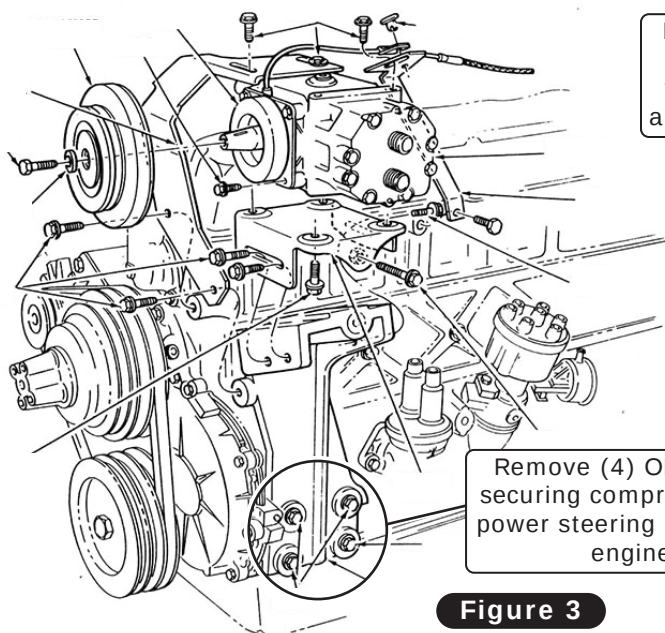

Figure 3
6. Remove the (4) bolts securing the compressor and power steering bracket to the engine (See Figure 3, below). Loosen the (2) pivot bolts on the power steering bracket, then remove the compressor and power steering bracket (See Photo 1, below).